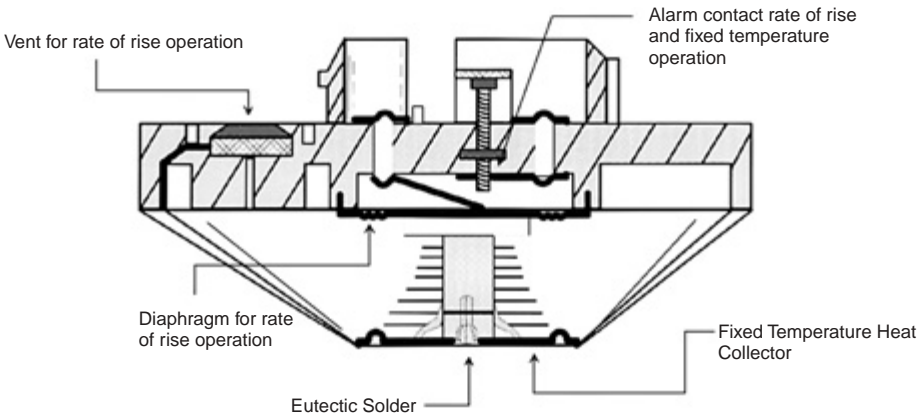

Figure 5.20 Combination spot-type rate-of-rise fixed-temperature detector.
Spot-type, rate-of-rise detectors: A device consisting of an air chamber, diaphragm, contacts, and compensating vent in a single enclosure. The principle of operation is the same as that described in (A) in the previous paragraph. Some spot-type, rate-of-rise detectors also incorporate an element using eutectic solder that is arranged to melt at a fixed temperature and cause contacts to close. These detectors are referred to as *fixed temperature* and *rate-of-rise detectors* and combine the two principles of operation in a single unit (Fig. 5.20).